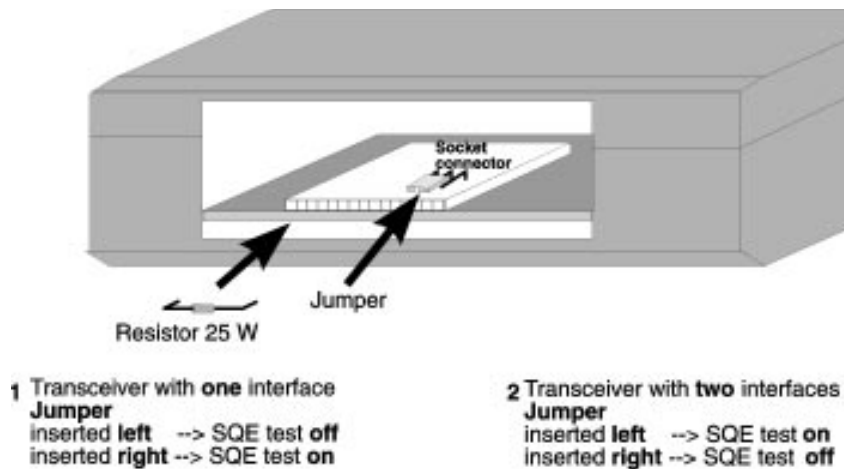

Fig. 2: Setting the SQE test
- ✓ Select the setting for the SQE test on the SINEC transceiver (refer to Fig. 2). When supplied, the SQE test is inactive.